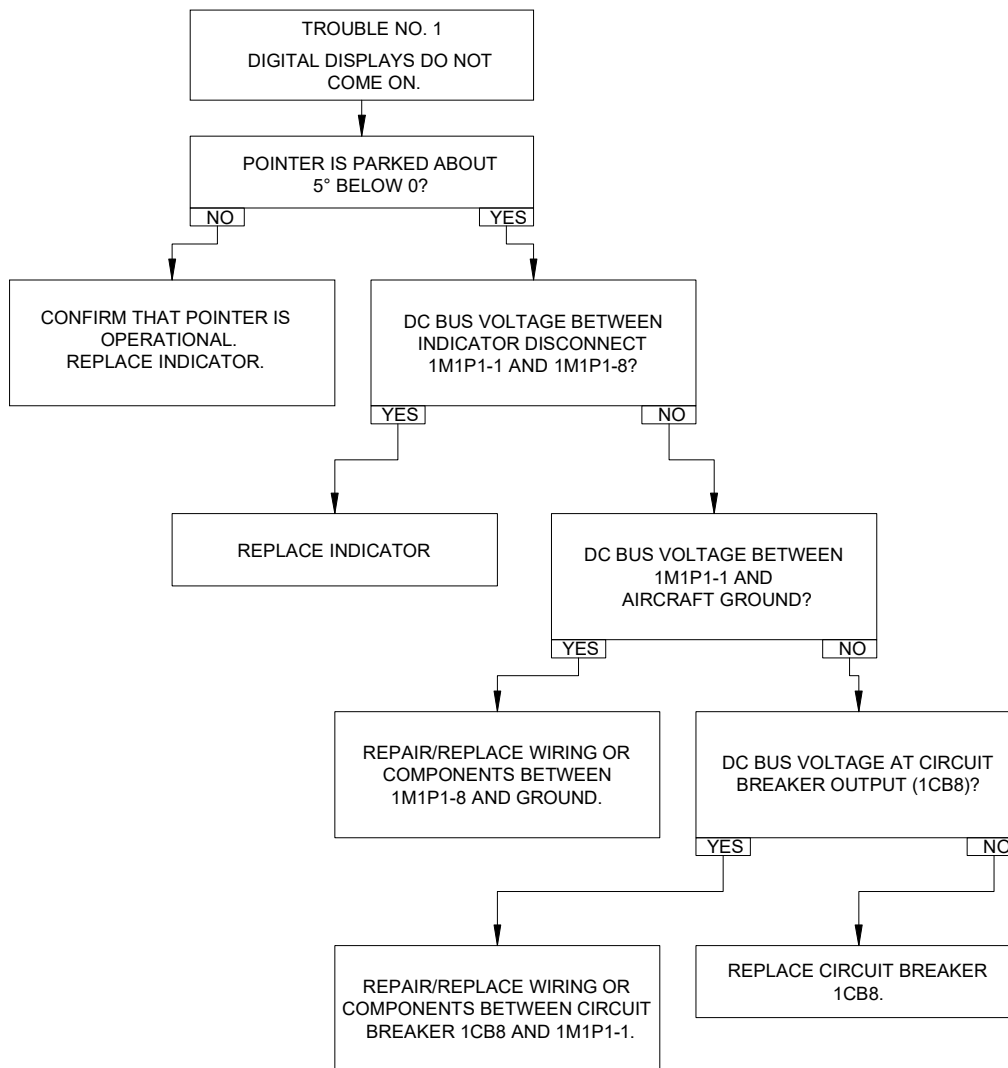

Figure 95-38: Fuel Quantity Indicator - Trouble No. 1
- If the digital displays do not come on, refer to Trouble No. 1 (Figure 95-38).